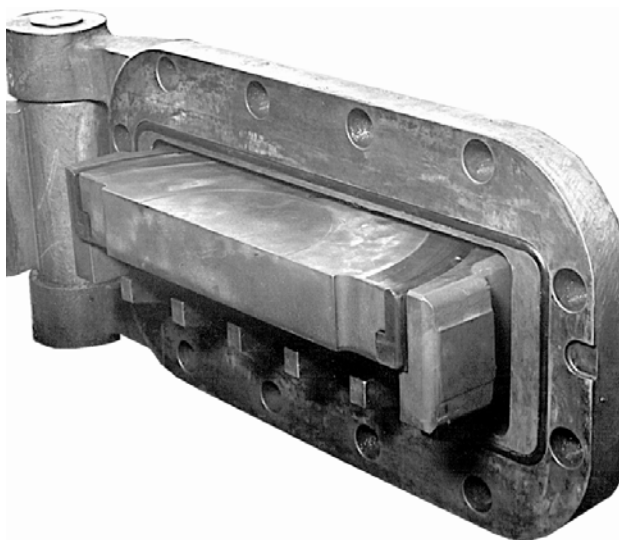

Figure 4-5. Ram Located in Door Cavity
4. Notice the ram in the cavity of the BOP door as shown in Figure 4-5.